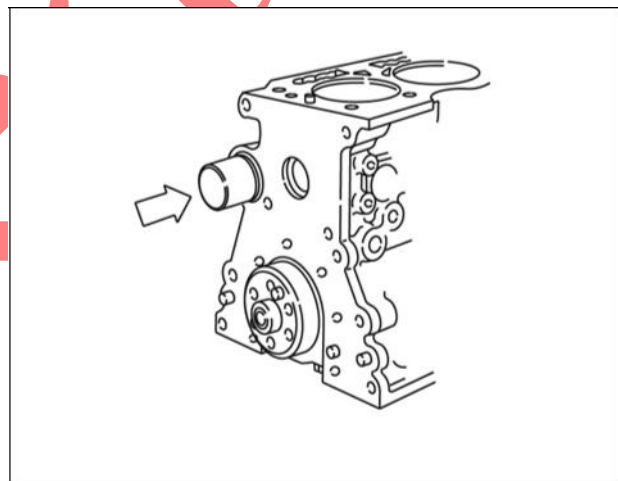

Figure 9
2. Using Camshaft Bearing Driver #19422, install new camshaft plug flush with cylinder block (Figure 9).